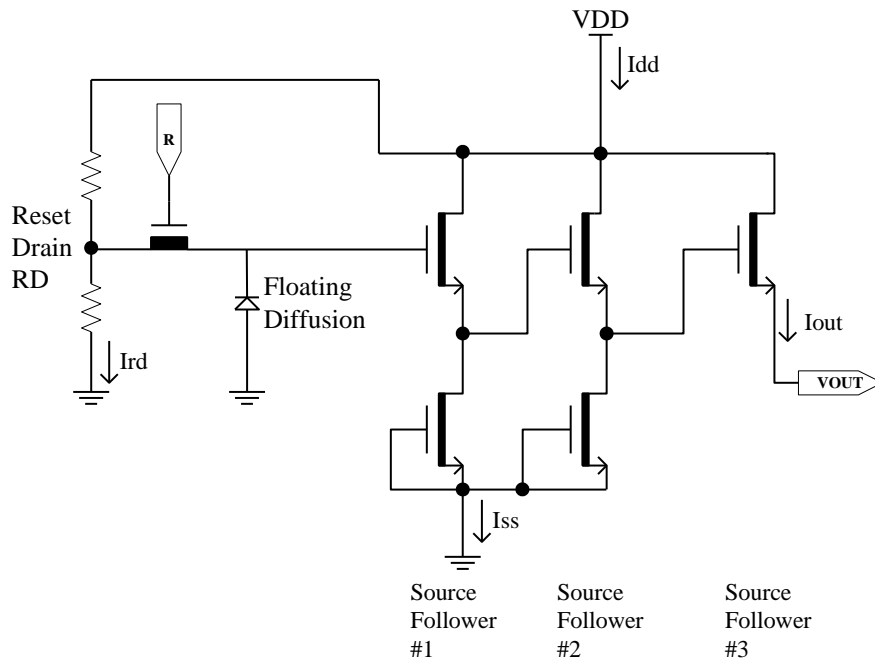

Figure 12: Output Amplifier
- Each output. See Figure 12. Note that the current bias affects the amplifier bandwidth.
1. The maximum DC current is for one output unloaded and is shown as $I_{rd} + I_{ss}$ in Figure 12. This is the maximum current that the first two stages of one output amplifier plus the reset drain bias circuit will draw. This value is with V_{out} disconnected.